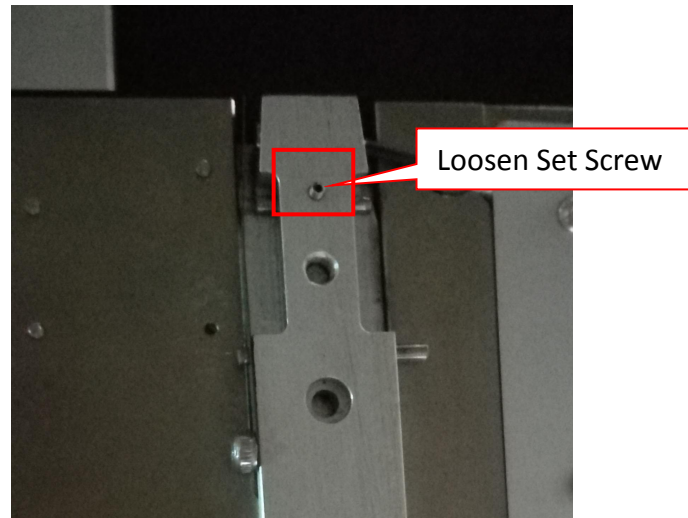

Figure 11 Set Screw Location
7. Loosen Set Screw as shown in Figure 11